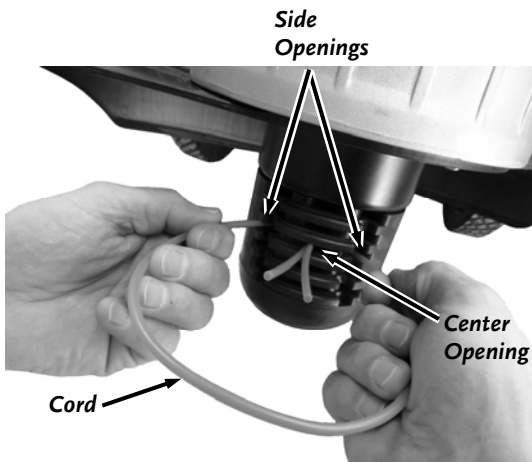

Figure 3
1. Insert the ends of the Cords into the side openings in the Line Plate (**Figure 3**).